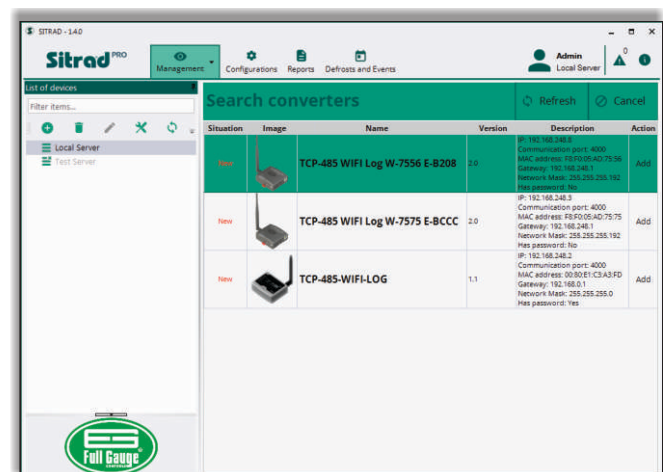

Figure 27
Step 3: Sitrad^{PRO} should perform the search on the network, and the available converters should appear in the **Converter Search** tab (Figure 27). Select the desired converter and click **Add**.